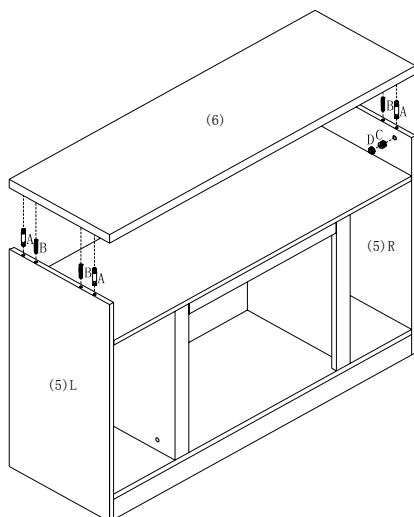

Figure 3
PUT THE TOP PANEL (6) ON THE UNIT, INSERT 4PCS CAM-BOLTS(A) AND 4PCS WOOD DOWEL(B) INTO PREDRILLED HOLES OF SIDE TOP PANEL(6),AND FIT INTO CORRESPONDING HOLES ON INSIDE OF SIDE PANEL(R&L) (5),THEN INSERT 4PCS CAM-LOCK(C) INTO BIG HOLES ON INSIDE OF SIDE PANEL(R&L) (5) WITH SLOT FOR SCREWDRIVER FACING OUTWARD ROTATE CAM-LOCKS(C) CLOCKWISE TO SECURE CAM-LOCKLS, AS FIGURE 3 SHOWN.